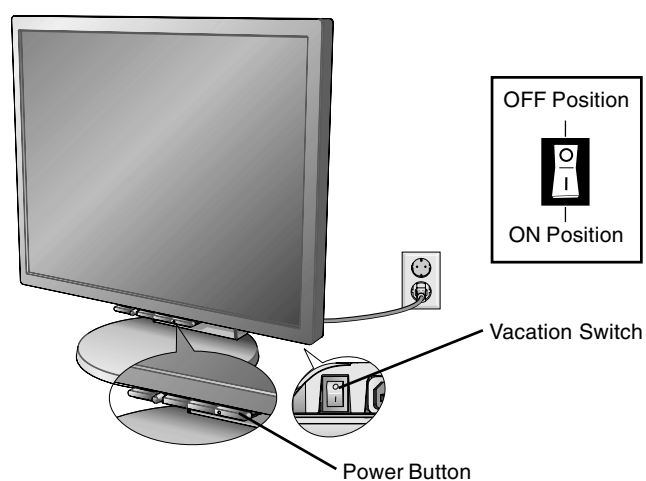

Figure E.1
10. Connect the power cord to the power outlet (Figure E.1).
11. The vacation switch on the back side of the monitor must be turned on (Figure E.1). Turn on the monitor with the front power button and the computer.